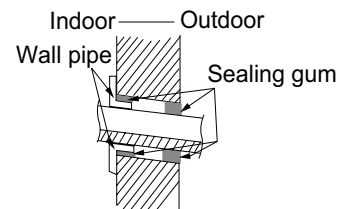

Fig.16
- (1) Put the bound pipes in the wall pipe and then make them pass through the wall hole.
- (2) Hang the indoor unit on the wall-mounting frame.
- (3) Stuff the gap between pipes and wall hole with sealing gum.
- (4) Fix the wall pipe.
- (As show in Fig.16)